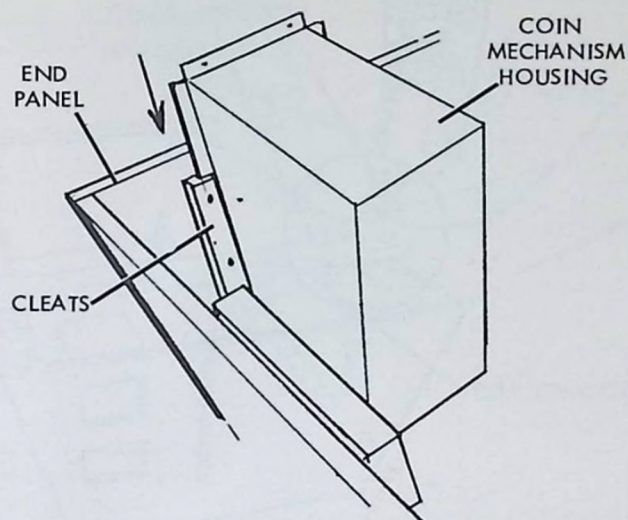

FIGURE 4
5. Install the coin mechanism housing on the base frame. (Figures 4 and 5) Slide the housing into the cleats provided, and attach with hardware shown.